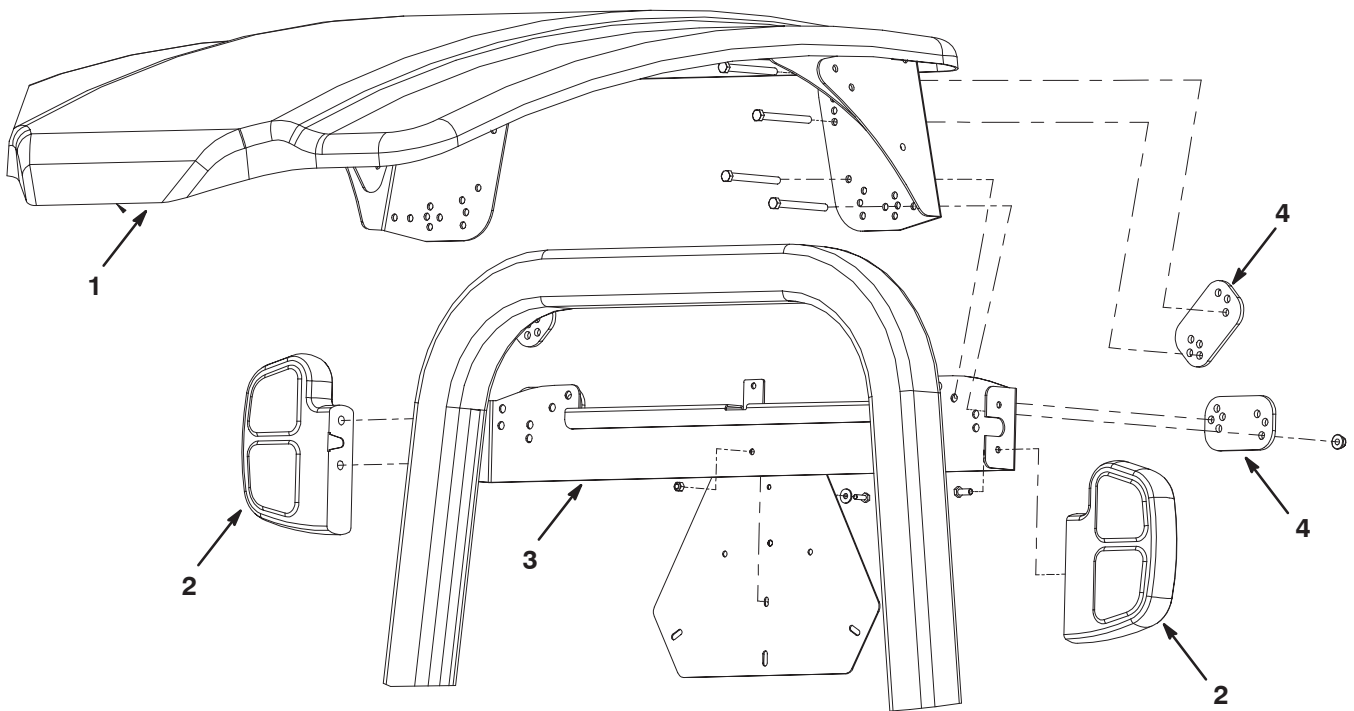

Figure 18
2. Mount the appropriate (R.H. or L.H.) tail light assembly to each end of the light bracket with (2) (M8–1.25) screws as shown in Figure 18. The black lens should be toward the front of the machine. Torque screws to 72 in–lbs. **Do Not Over Tighten The Screws.**
3. Mount the canopy, light bracket and new back up plates to the ROPS with the bolts and nuts previously removed. Use the mounting hole locations shown in figure 18. Position the light bracket between the ROPS and the lower back up plates.